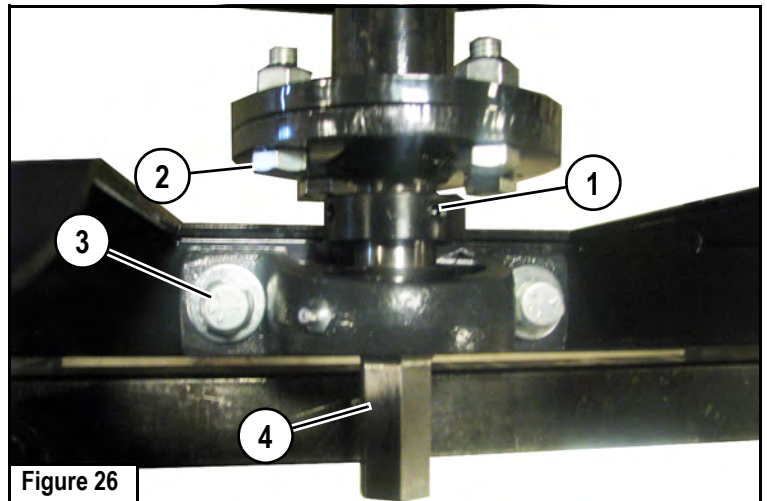

Figure 26
4. Loosen the bearing offset locking collar set screws (Item 1) and loosen the offset locking collar. **[Figure 26]**
5. Remove the four adapter shaft mounting bolts and nuts (Item 2). **[Figure 26]**
6. Remove the two bearing mounting bolts (Item 3). **[Figure 26]**
7. Attach a lifting device to this end of the spool and lift slightly to allow removal of the adapter shaft (Item 4) from the spool. **[Figure 26]**